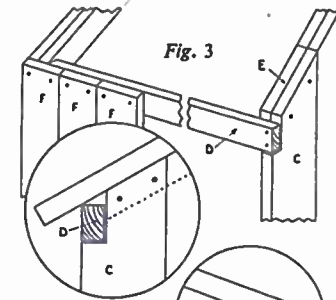

Fig. 3
The next thing to do is to fix the piece (D) (Fig. 3) across the front. This should be marked off and sawn to the correct length, and it has to be nailed to the side boards (C). It can be chamfered off to continue the slope of the roof, or just left as in the drawings.
Before nailing into position, it is best to attach to it the front boards (F,F) in Fig. 3. If the hutch is 36ins. long, then these boards can make up a width of about 14ins. The top edges must be chamfered off to accord with the slope of the roof.